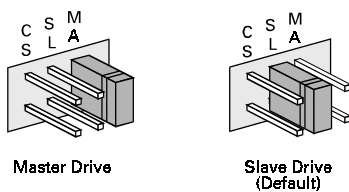

Figure 4-3: The available ID Jumper settings.
- Set your drive by placing the jumper blocks on the desired jumper as shown in Figure 4-3.